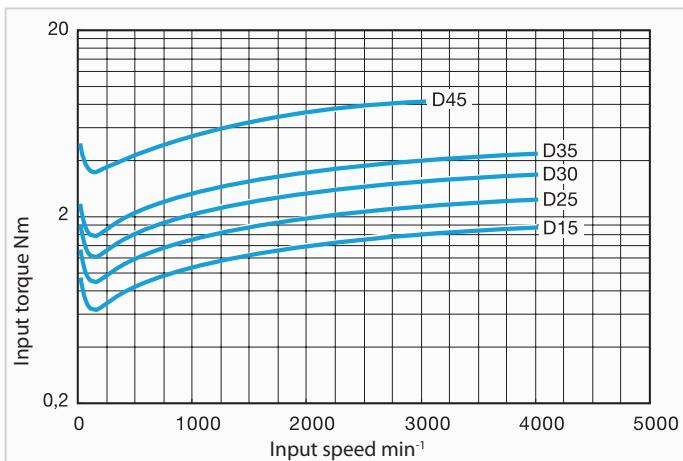

Fig. D1 Input side no-load running torque
- Fig. D1 shows the average no-load running torque after gearbox is run in. (not factory-new condition)